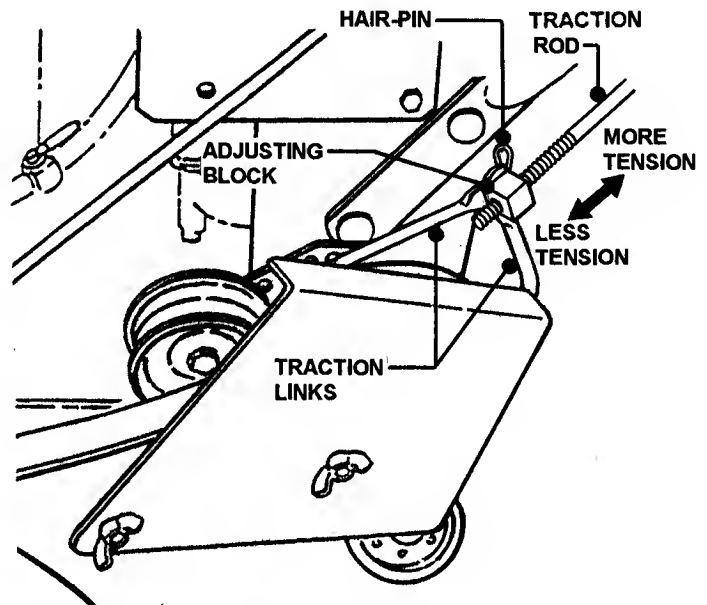

FIGURE 25
4. Remove the hair pins from the traction rod adjustment blocks and remove the adjustment blocks from the traction links on each side of the mower. See Figure 25.